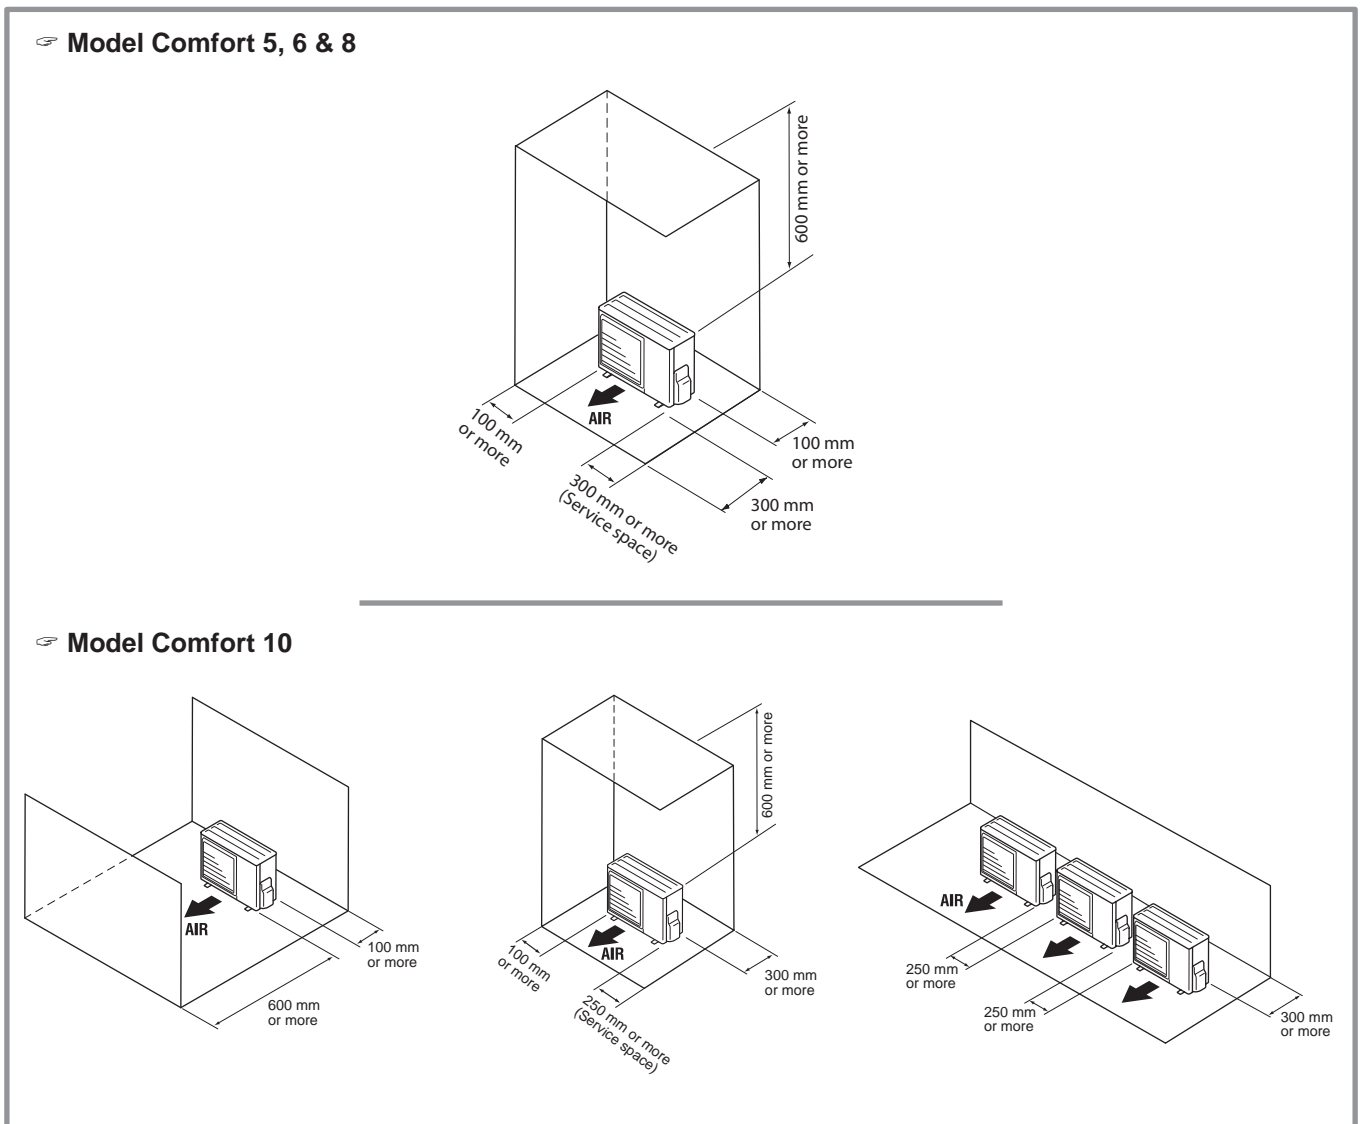

figure 11 - Minimum installation clearances around outside unit
☞ **The outdoor unit must only be installed outdoor (outdoors). If a shelter is required, it must have broad openings on the 4 walls and observe the installation clearances (figure 11).**
- Nothing should obstruct the air circulation through the evaporator and from the fan (figure 11).